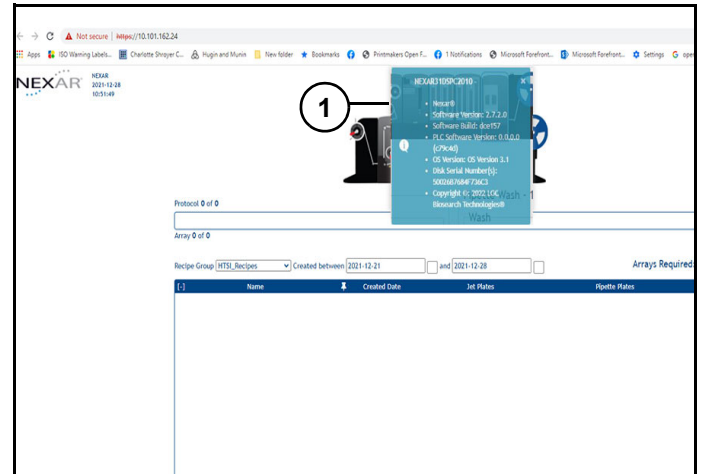

Figure 41
Information box (1) (Figure 41): Displays instrument information including IP address, software version, etc.